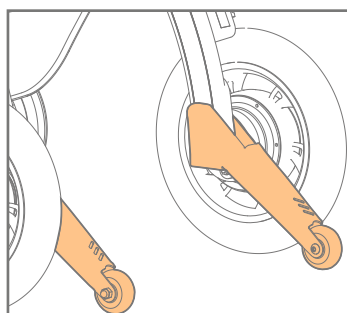
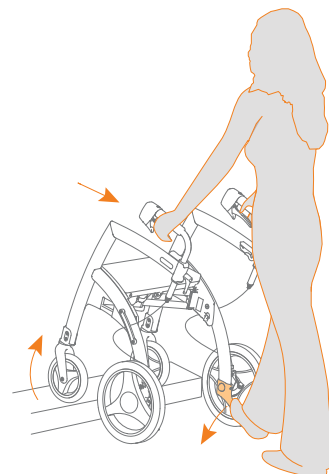

Figure 63: Use the anti-tipping aids.
Figure 64: Getting on the curb or pavement or go over a threshold.
- Push the left or right anti-tipping aids (**Figure 63**) down with your left or right foot, while tilting the Rollz Motion Electric towards you with your hands. This way, the front wheels lift off the ground. Now push the Rollz Motion Electric forward until you are clearly on the curb or over the threshold with the front wheels (**Figure 64**).